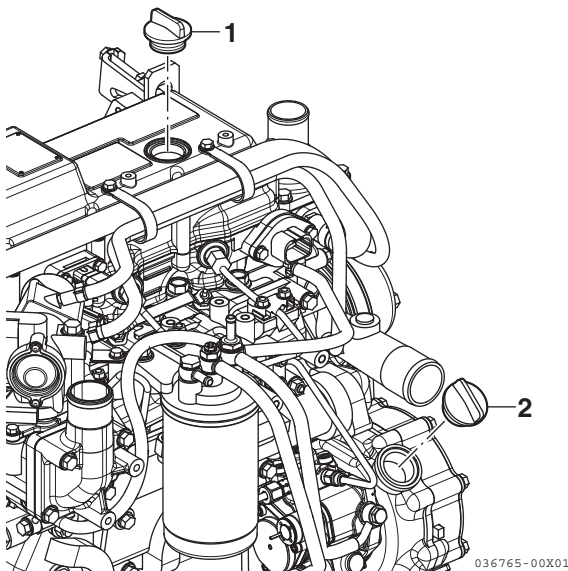

Figure 5-1
4. Remove one of the oil filler caps (**Figure 5-1, (1) or (2)**) to vent the engine crankcase and allow the engine oil to drain more easily.